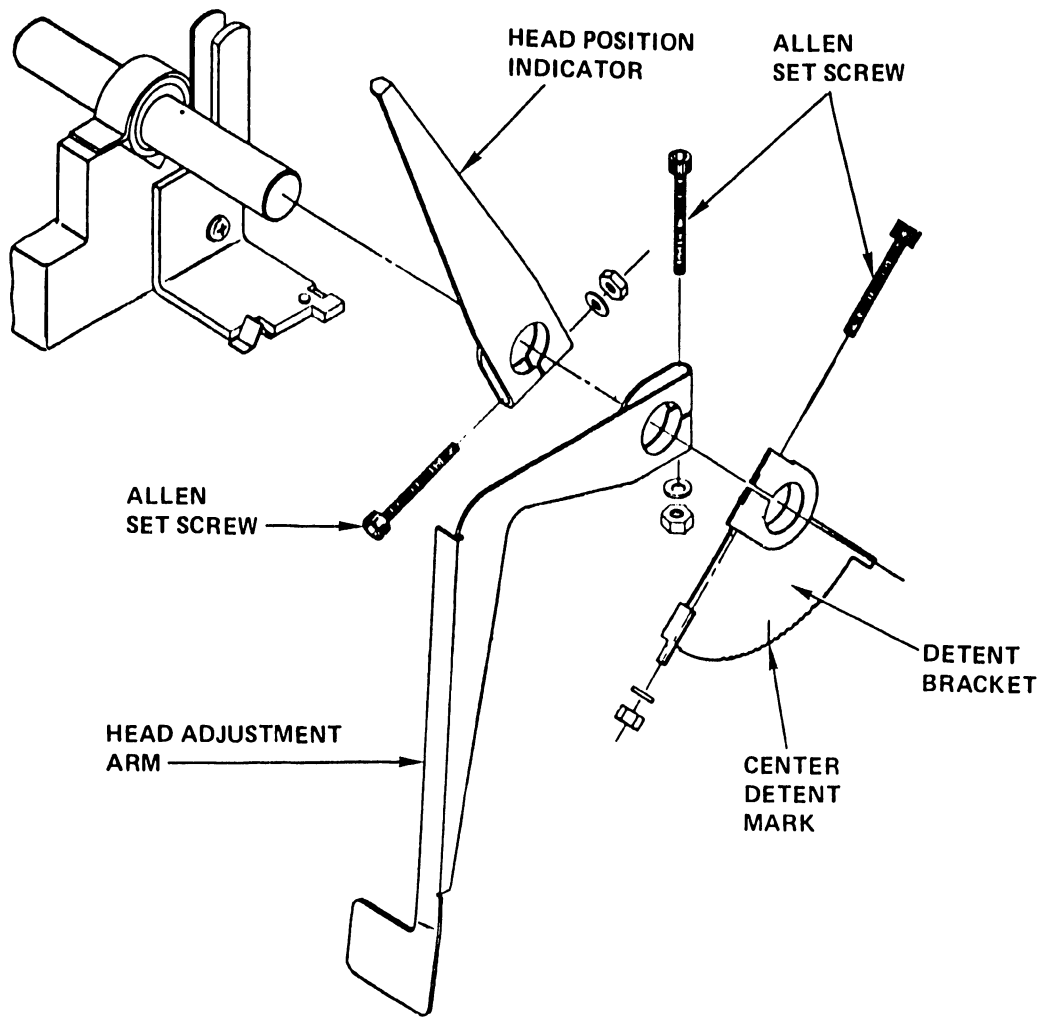

Figure 5-53. Head Adjustment Arm (New Style)
- b) Current Style - The current version consists of a fixed indicator arm attached to the carriage shaft. See Figure 5-53. To adjust, loosen the Allen set screw on the indicator arm, set the print heads forward, move the indicator to read zero, and then tighten the set screw.